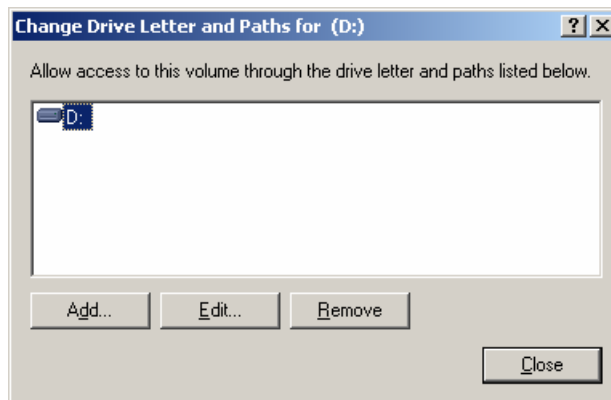

Figure 2-36 [Change Drive Letter and Paths for (D:)] dialog box
- 2) The [Change Drive Letter and Paths for (D:)] dialog box is displayed, as shown in Figure 2-36.